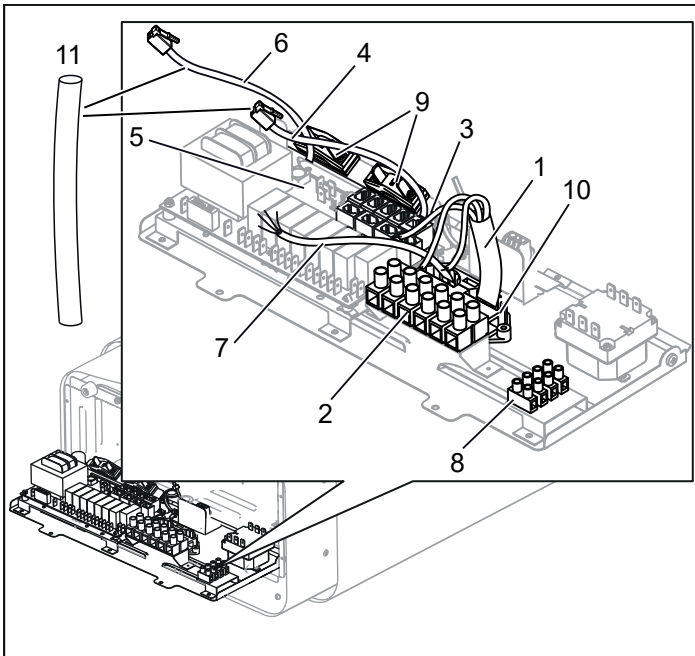

Figure 9: Circuit board
3. Connect the electrical cable (1) to the terminal (2) (see Figure 9) according to the wiring diagram (see the Connection/wiring diagram section, page 15).
4. Run the cables for the control panel and the temperature sensor through the cable grommets (3). Connect the control panel cable (4) to one of the four RS485 contacts (positions 6-9) (see Figure 9) according to the wiring diagram (see the Connection/wiring diagram section).
5. Connect the sensor cable (6) to the NTC contact on the circuit board (position 1) (5) (see the Connection/wiring diagram section) according to the wiring diagram (see the Connection/wiring diagram section, page 15).
6. Connect the light cable (if relevant) (7), see Figure 9, to the terminal (8) according to the wiring diagram Figure 17.